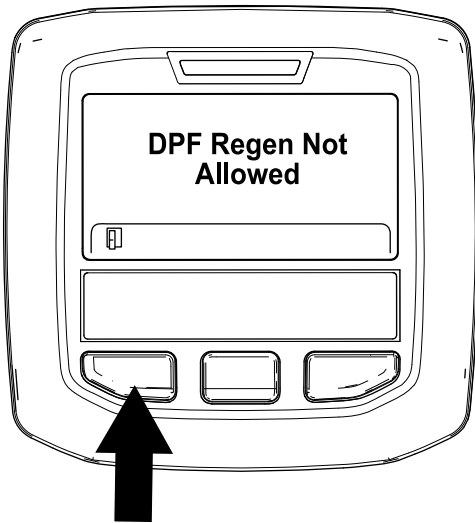

Figure 32
- If the regeneration process is not allowed by the engine computer, the “DPF Regen Not Allowed” message displays in the InfoCenter (Figure 32). Press the left button to exit to the home screen